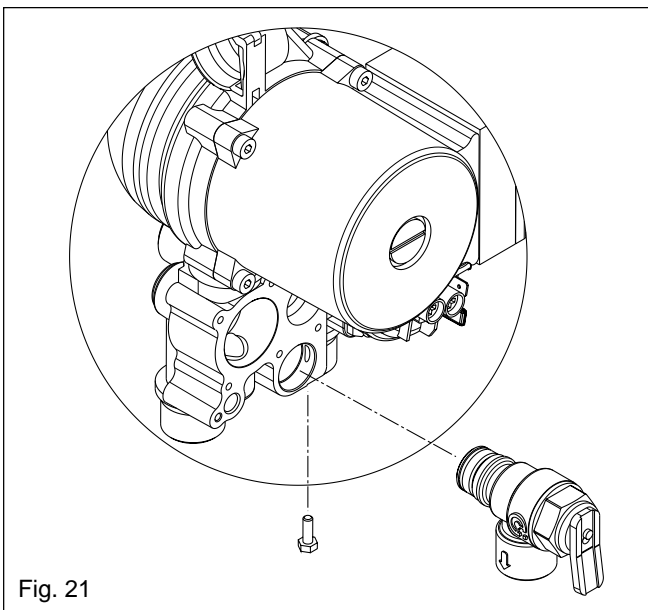

Fig. 21
6.6 SAFETY VALVE (see fig. 21)